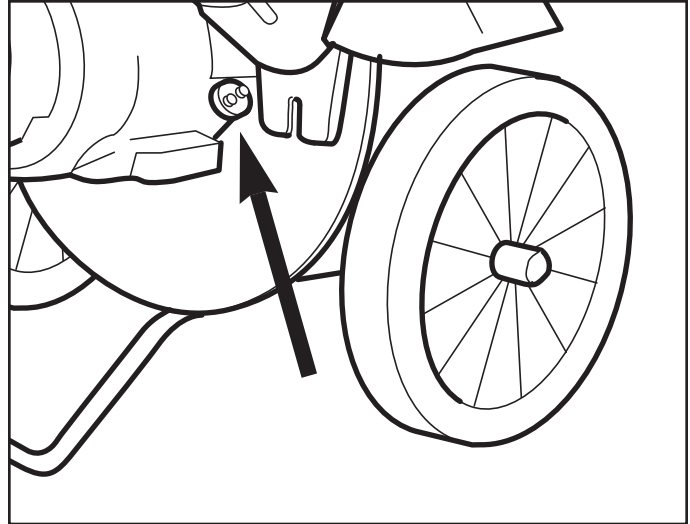

Figure 10. Engine Oil Fill Plug
1. Oil level must be full. Check the oil level by removing oil fill plug. Oil level should be up to the bottom of the fill plug opening (see Figure 10).